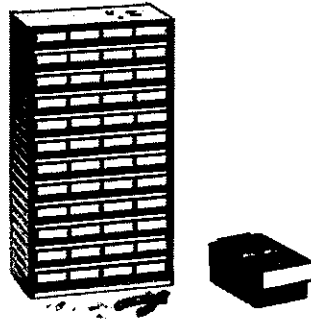

Figure 12: Example of Parts storage cabinets with drawers*
4.4 ESD-Safe Parts Storage Cabinets with Drawers (example in Figure 12) (6 sets - 3 large cabinets and 3 small cabinets)